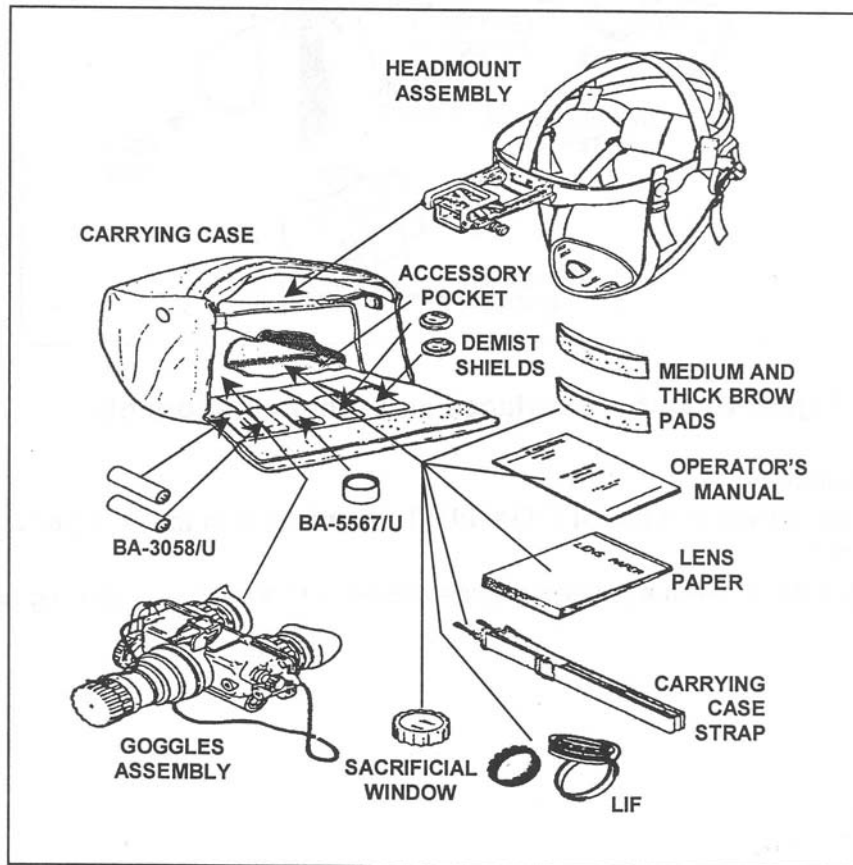

Figure 1. AN/PVS-7B night vision goggles.
- a. Inventory carrying case content to ensure the following accessories are present (Figure 1):
- (1) Headmount assembly.
- (2) Demist shields.
- (3) Brow pads (medium and thick) (thin pad is attached to headmount assembly).
- (4) Operator's manual.
- (5) Lens paper.
- (6) Carrying case strap.
- (7) Light interference filter (LIF).
- (8) Sacrificial window.
- (9) Batteries (2 BA-3058/U or 1 BA-5567/U).
- (10) Goggles assembly.